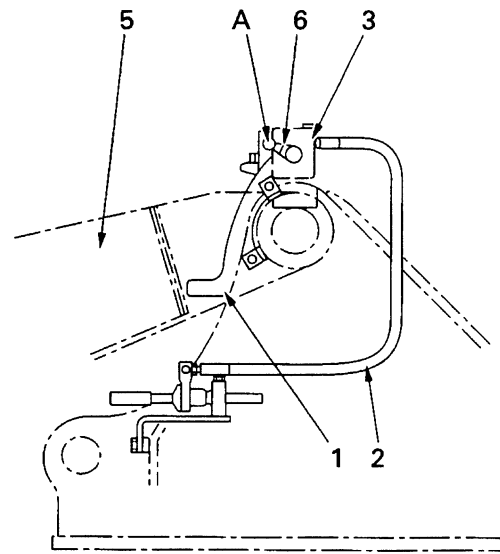

Fig. 1
- Hose (2) directs the oil pressure from the bottom side of the boom cylinders to pressure switch (3).
- When boom (5) is in the lowest position, lever (4) takes position A in Fig. 1 and the operating pressure (closed and open) becomes 60 kg/cm^2 .